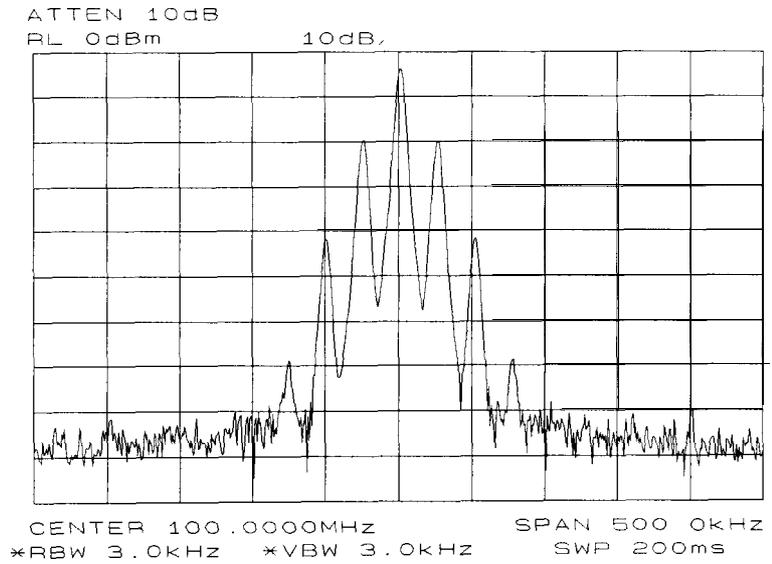
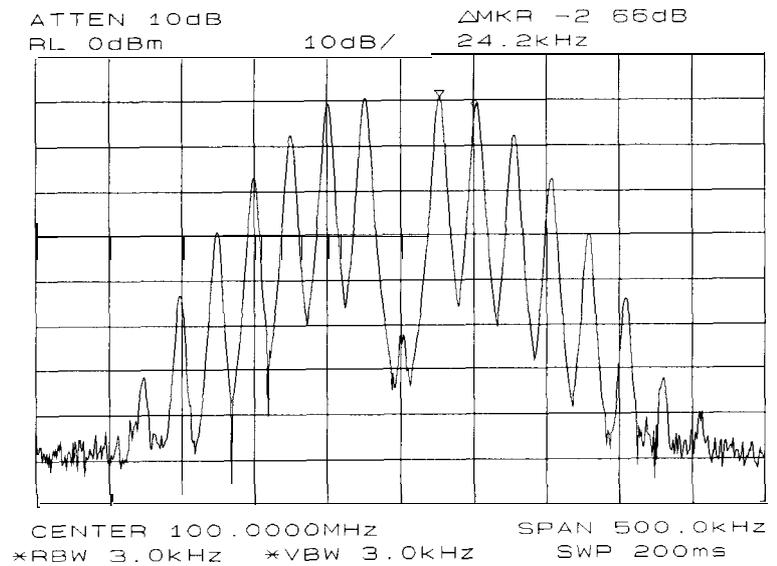
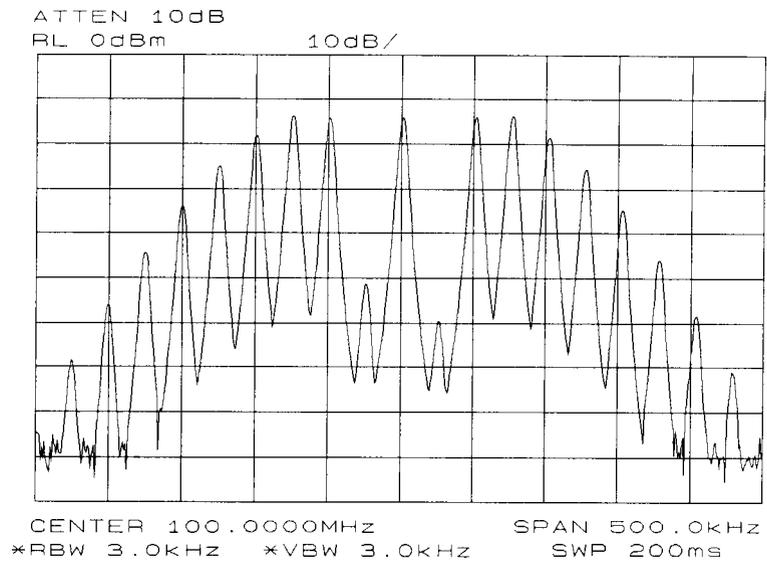

Figure 2-12. A Frequency-Modulated Signal
Figure 2-13. FM Signal with Carrier at a Null
Figure 2-14. FM Signal with First Sidebands at a Null
6. Gradually change the modulation frequency (or change the amplitude of the modulation signal) and observe the changes in the displayed nulls. Figure 2-12 illustrates a frequency-modulated signal with a small modulation index (modulation index of about 0.2) as it appears on a spectrum analyzer. Figure 2-13 and Figure 2-14 illustrate larger modulation index values. In the first figure the null is at the carrier. In the second figure the null is at the first sideband.